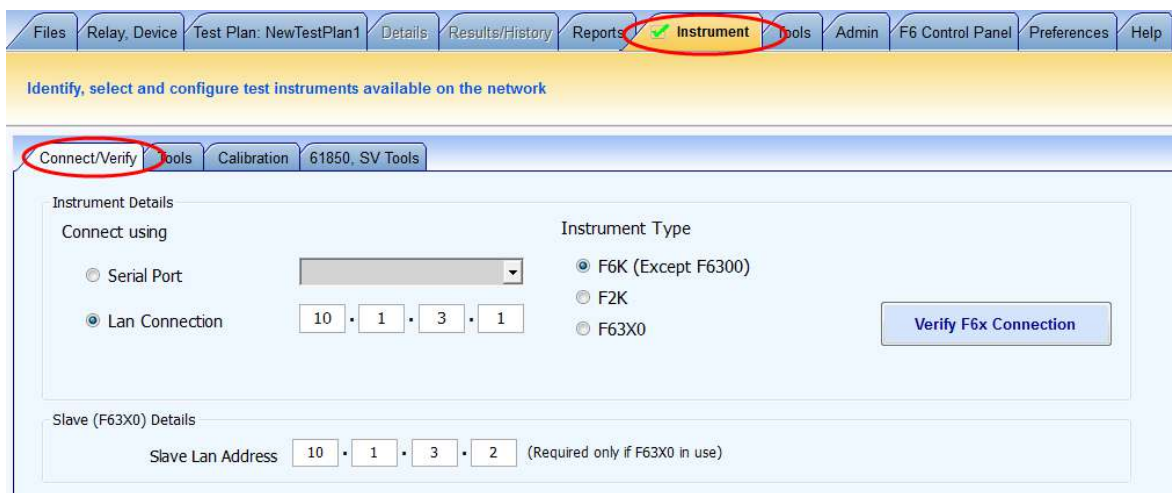

Figure 10. Reconnect to the F6150 instrument
- 33) Navigate to Instrument > Connect, Verify (format is “top tab > bottom tab;” see Figure 10)